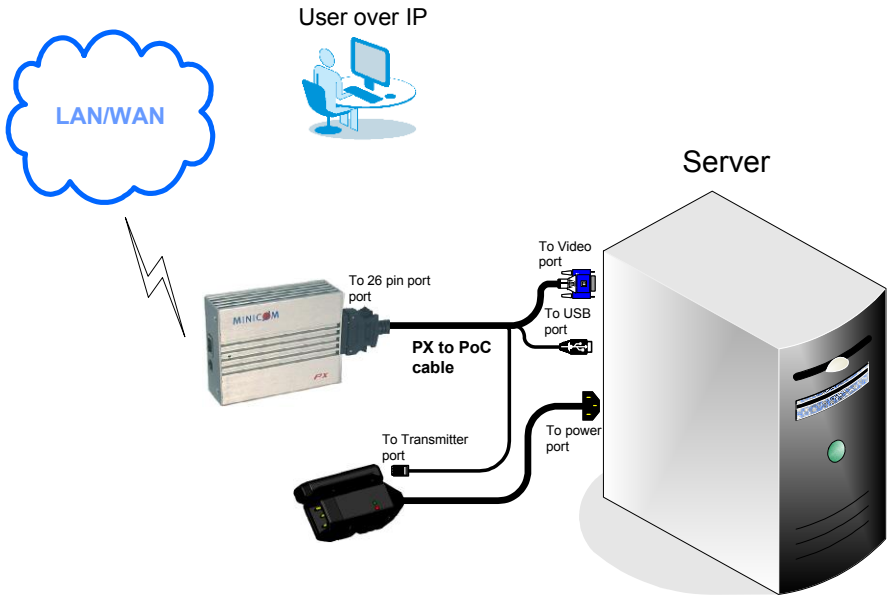

Figure 4 Power on Cable to PX connections
2. Connect the 26 pin connector of the supplied PX to PoC cable to the 26 pin port of the PX. See Figure 4.